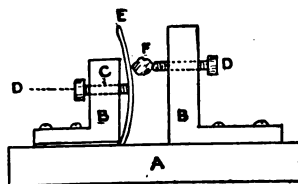

Fig. 10
Any boy may readily construct an efficient mineral detector, such as is shown in Fig. 10, with a few odds and ends. The detector consists of a hard-wood or compressed-fiber base (A); a couple of brass or copper standards, and a piece of spring-brass. The base (A) is one inch wide, three inches long and $3/8''$ thick. The brass standards (B, B) are each $1/4''$ thick by $3/8''$ wide. The upper portion of one standard should be one inch by one inch, the other one inch by $1-3/8''$. A hole (C) is then bored with a No. 31 drill $1/4''$ below the top and in the center of each standard. The holes should be tapped with an $8/32''$ screw tap and a $3/4''$ No. 8 screw (this may be obtained from the carbon of an old dry battery) fitted in each hole as shown at D, D. Two holes are drilled through the base of each standard with a No. 10 drill, and the holes countersunk for brass wood-screws.